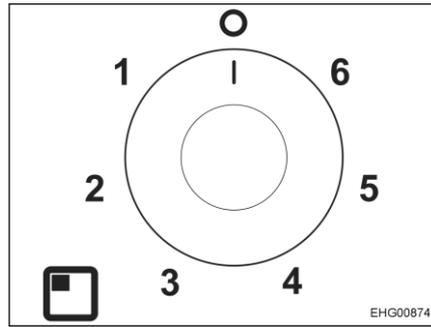

Fig. 128 Control knob for electric hot plate
- Set the control knob (Fig. 128) to the desired temperature level.